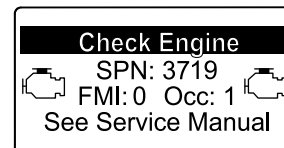

Figure 49
- If a recovery regeneration is needed, the InfoCenter displays engine warning SPN 3719, FMI 16 (Figure 49) and the engine computer derates engine power to 85%.